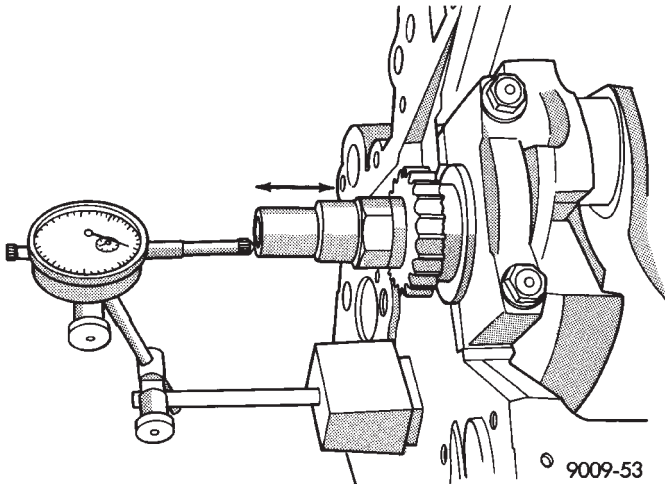

Fig. 71 Crankshaft End Play—Typical
- (1) Mount a dial indicator to front of engine, locating probe on nose of crankshaft (Fig. 71).
- (2) Move crankshaft all the way to the rear of its travel.
- (3) Zero the dial indicator.